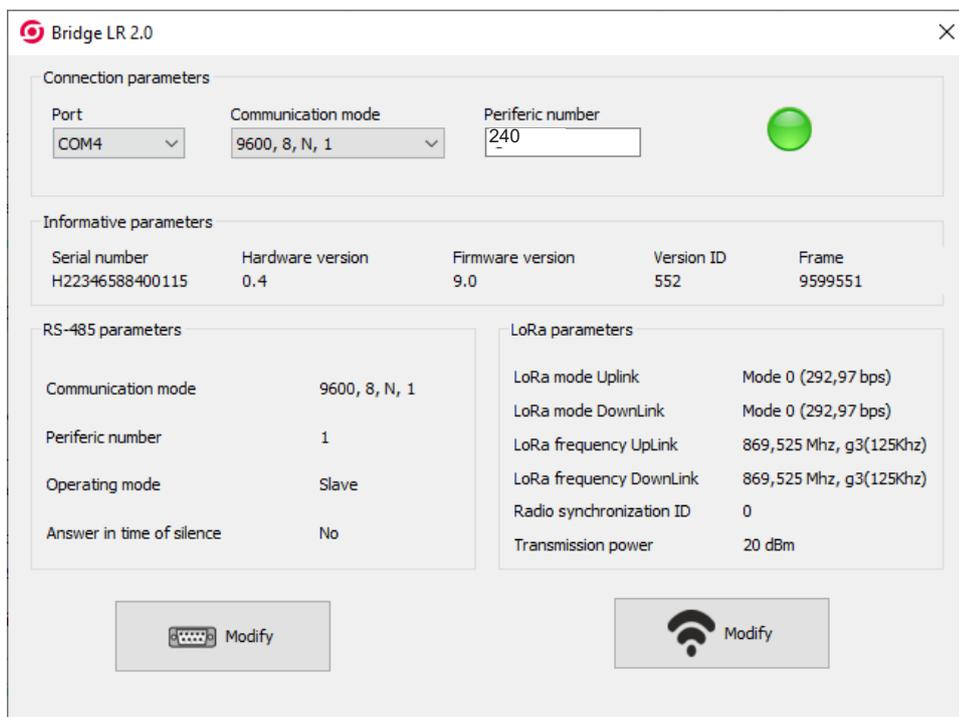

Figure 7: Configuration software: Device connected.
4.- Once the device is communicating with the PC, the connection icon turns green, displaying the **Informative parameters** and the default **RS-485** and **LoRaTN parameters** (**Figure 7**).